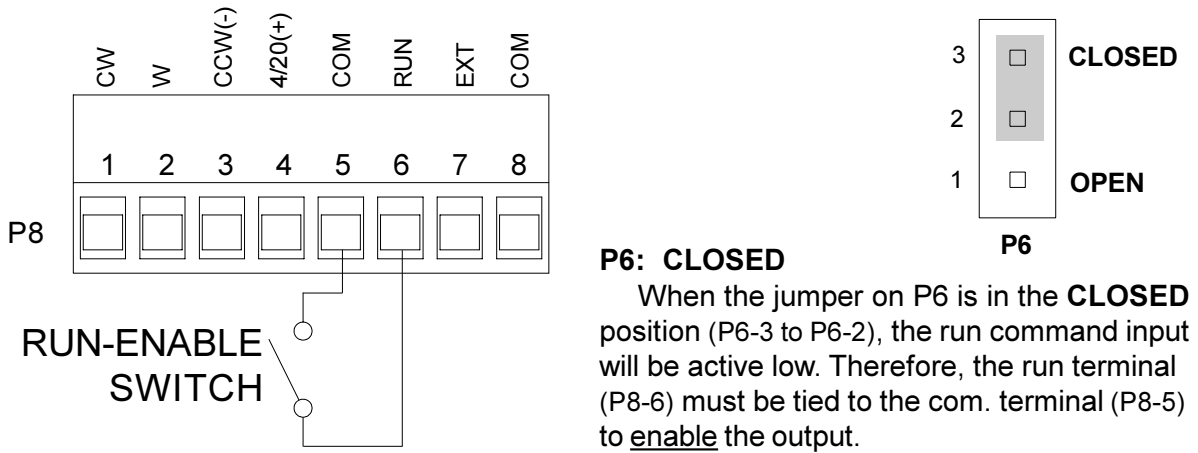

Figure 4. Connecting a run-enable Switch.
2. Remote RUN-STOP control. Two terminals are provided on the command signal connector to permit this remote function. The user has a choice of normally closed or normally open contacts. The selection is made with a jumper on connector P6. See figures 4, 5 & 6 on page 4 for details.